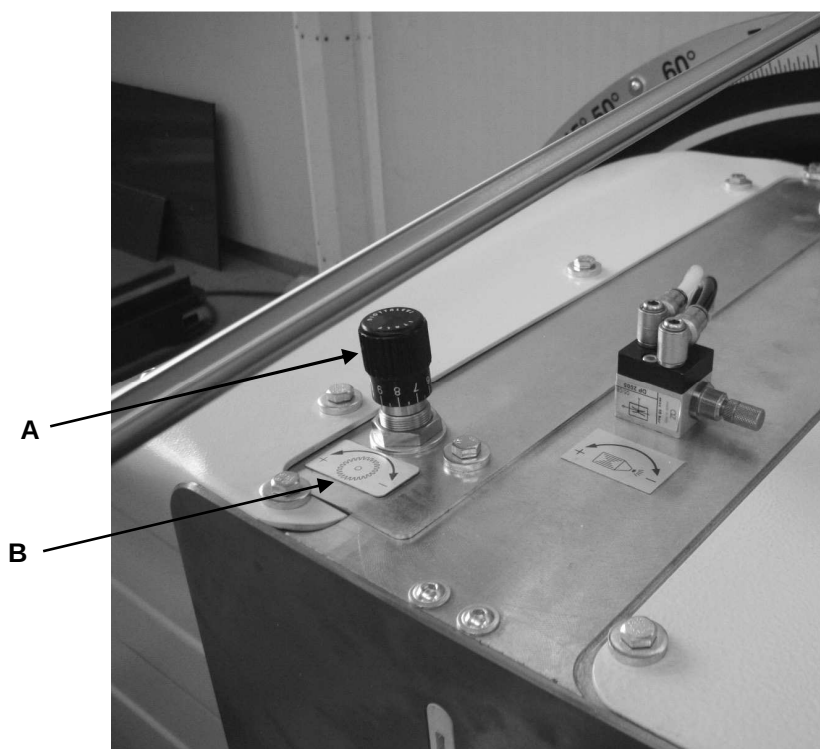

Fig. 09-02
9.2 REGOLAZIONE VELOCITA' USCITA LAMA (Fig. 09-02)